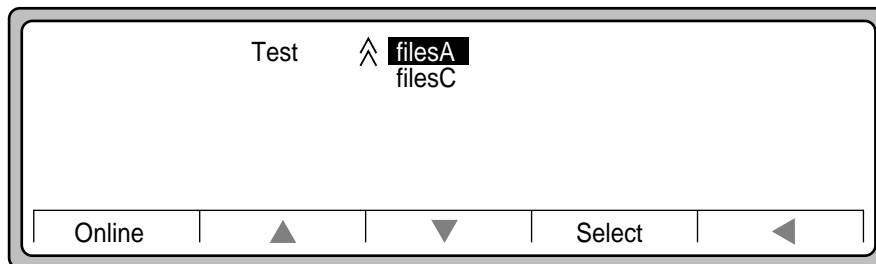

Figure 4-45 Test Submenu
4. Use the **Down Arrow** button to scroll down and highlight **filesA**, as shown in Figure 4-45, and press the **Select** button.